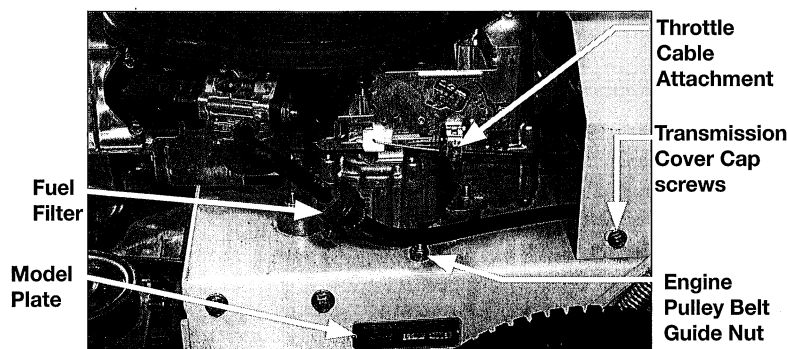
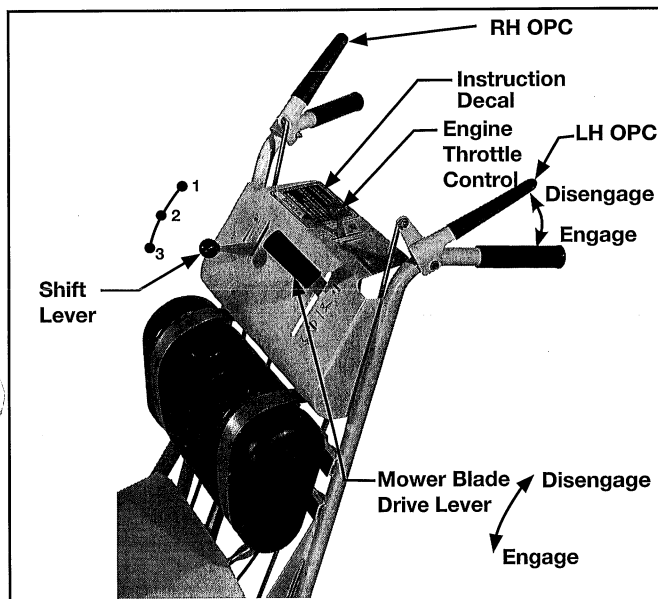
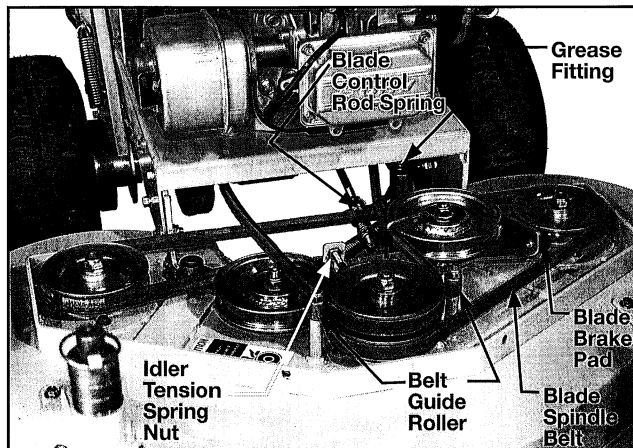
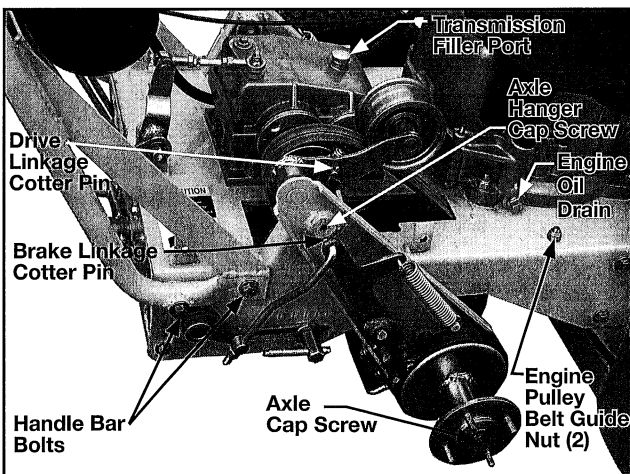

FIG 1 Intek Throttle Attachment
FIG 2 Mower Controls
FIG 5 Blade Spindle Belt
FIG 8 Wheel Drive Belts
Record (See FIG. 1)
The Handlebars and Control Linkages may not be completely installed on the Mower. Attach the Handlebars with two bolts on each side as shown in FIG 8. Route the Throttle Cable through the Transmission Cover and attach to the Engine as shown in FIG 1 and in the Engine Owner/Operator Manual. Each of the Control Rods must be connected as shown in FIG 2 & 10. Follow the instructions
NOTE: The Mower can be manually pushed or pulled by engaging the left Operator Presence Control (OPCs) with or without the engine running. Wheel Brakes are applied automatically when both Operator Presence Controls (OPCs) are up (Disengaged) FIG 2.
1. See that the Blade Drive Lever and both Operator Presence Controls are disengaged, FIG 2.
## STOPPING THE ENGINE FIG 2.
## BLADES AND WHEEL DRIVES FIG 2.
## BLADE SPINDLE BELT FIG 5
1. Be sure Mower Blade Drive Lever and Operator Presence Controls are disengaged. FIG 2
## BLADE BRAKE PAD REPLACEMENT FIG. 5
1. Be sure Blade Drive Lever and Operator Presence Controls are disengaged, FIG 2.
2. Remove both center Spindle Pulley Belt Guide Rollers, FIG 5, loosen and remove Belt Guide from Engine Pulley, nuts are shown in FIG 8.
5. To adjust belt tension, tighten or loosen Lock Nuts on Blade Control Rod Spring FIG 5.
1. Remove Engine Pulley Belt Guide FIG. 1 & 8 and Blade Drive Belt from Engine Drive Pulley. Idler Pulley is spring loaded.
## WHEEL DRIVE BELT REPLACEMENT FIG 8
2. Remove 4 Cap Screws and lift off Transmission Cover FIG 1.